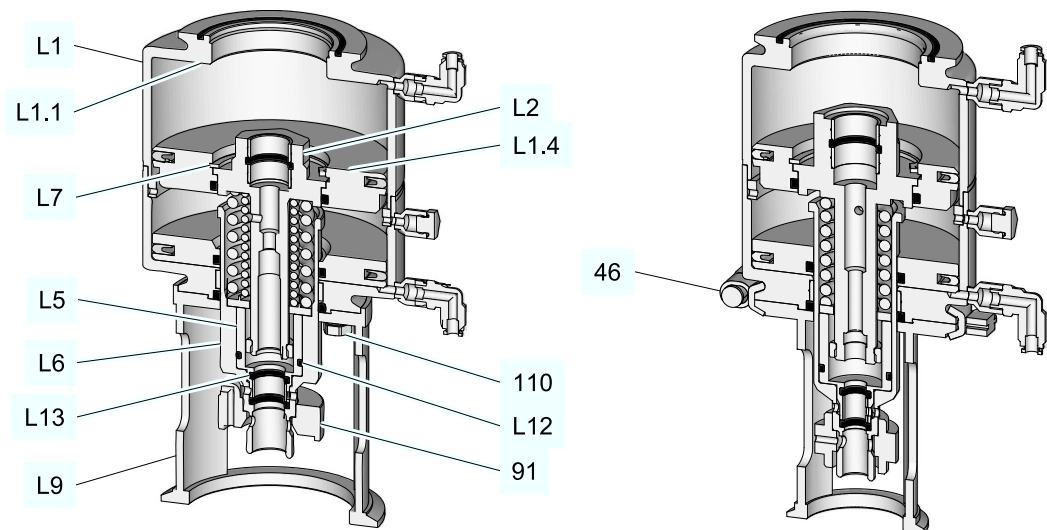

Fig.32
6. **Rated widths up to 2" OD and DN 50:** Release and remove the clamp connection (46), see figure 32.
Rated widths from 2.5" OD and DN 65: Release and unscrew the hex screws (110), see figure 32.